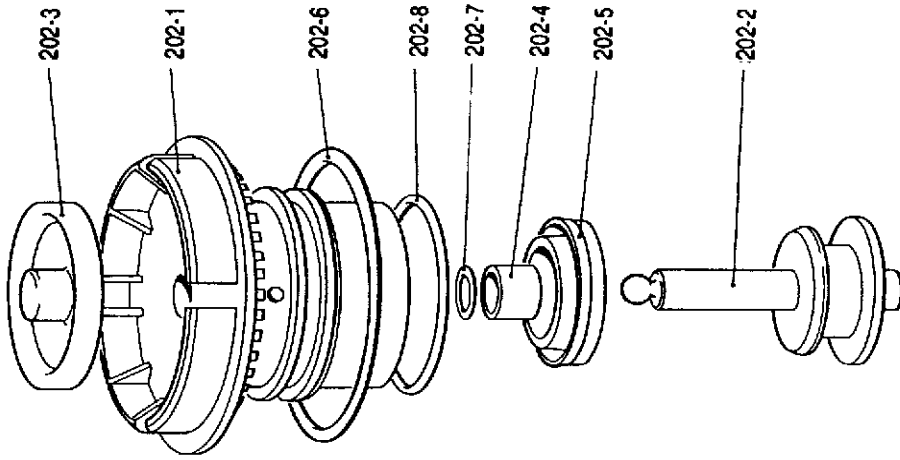

Figure 4 - Exploded view of the inlet valve assembly
- 202 Inlet valve assembly: see Figure 4